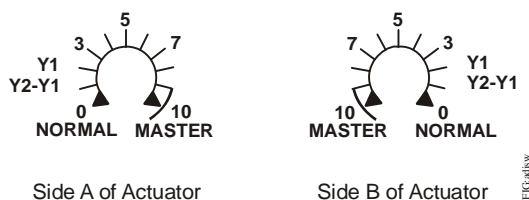

Figure 14: Potentiometer Adjustment for Setting Span and Zero Voltage
3. Adjust the voltage switch (Figure 14) to the desired zero voltage as displayed on the printed 0-10 scale. To inspect the exact setting voltage, attach a voltmeter between the feedback wires (orange [+] and black [common]).